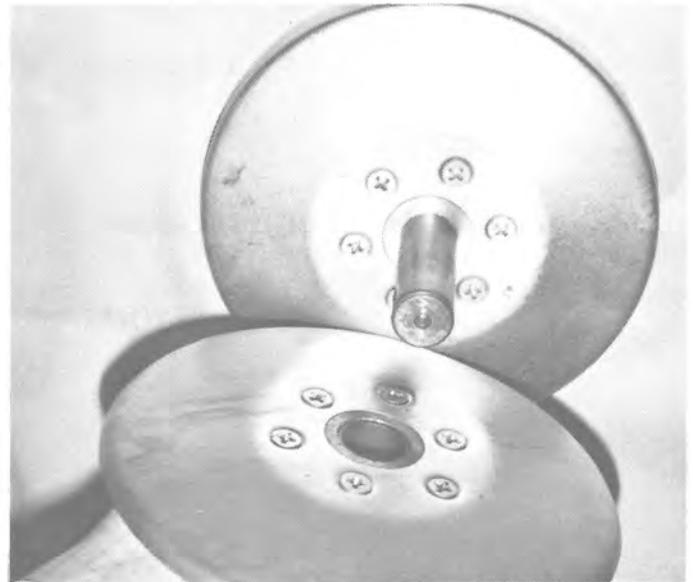
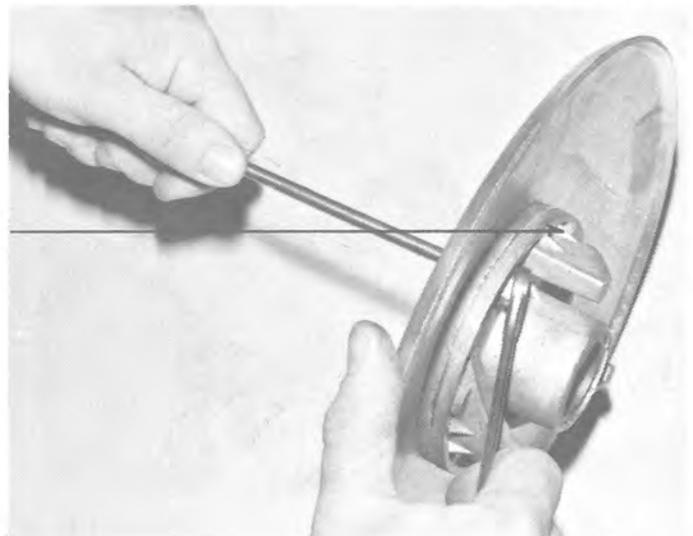

FIG. 4-17
FIG. 4-18
5. This should allow cam bottom and movable sheave to be removed as a unit (See Figure 4-17.), and disassembled if necessary. (See Figure 4-18.)